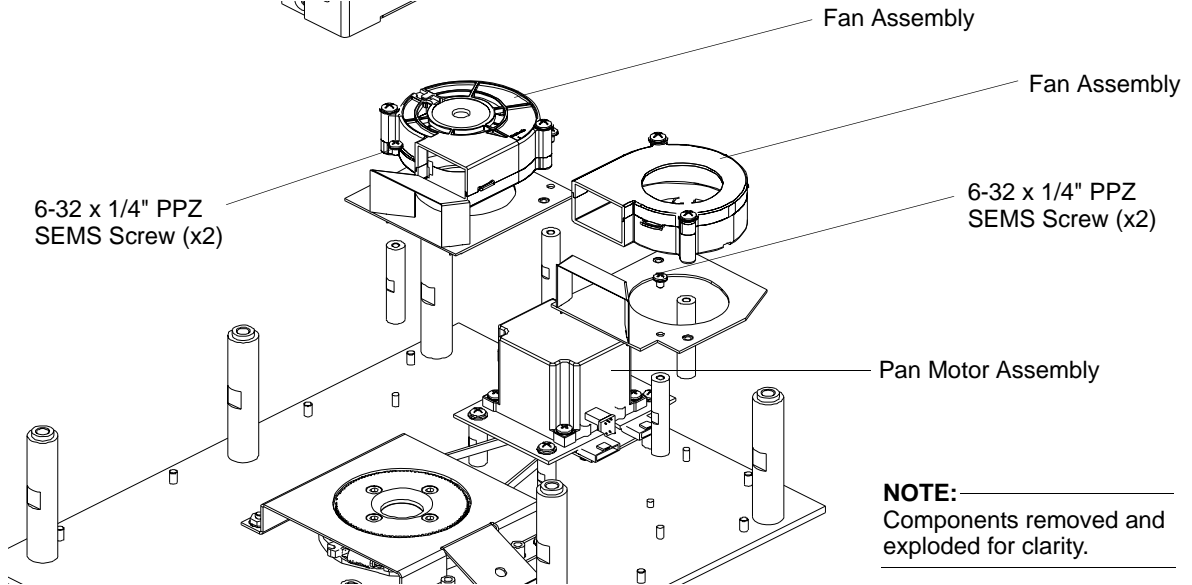

Figure 2-53: Enclosure Fan Assemblies Removal
Step 5. As indicated in Figure 2-53, remove both fan assemblies by removing two 6-32 x 1/4" PPZ SEMS screws (per fan assembly).